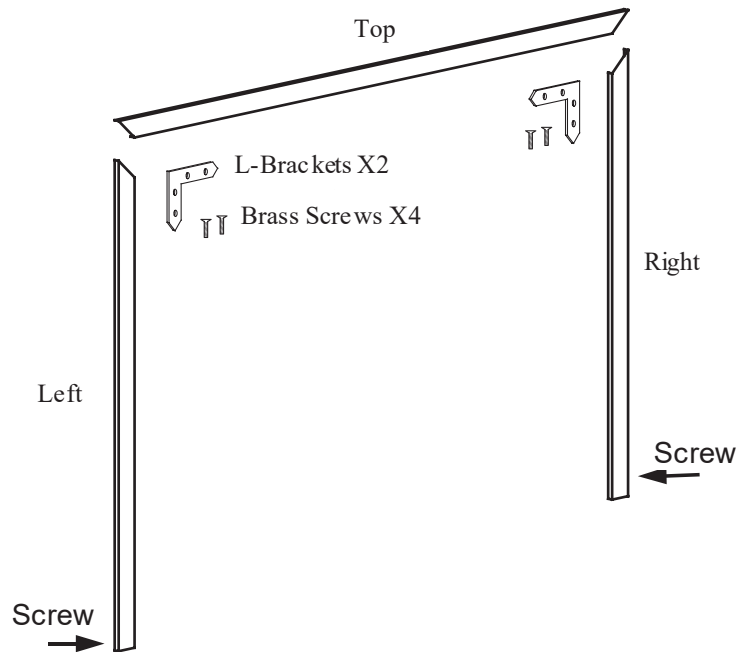

Fig. 3
5. Assemble the shroud trim as shown in **Fig. 3**. It will be attached to the unit during the next step.